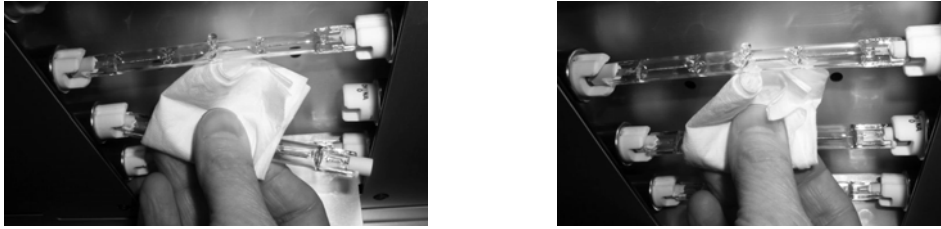

Figure 14. Lamp Replacement
- Using a piece of lens paper (or equivalent) between your fingers and the lamp; push one end of the replacement lamp into the socket. Refer to Figure 14.
- Insert the other end of the lamp into the other socket and release the lamp. Refer to Figure 14.